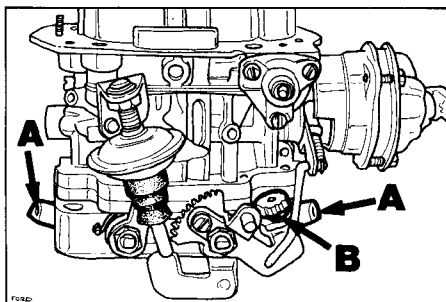

Fig. 1 Idle adjusting screws
- If outside specification, adjust with idle speed screw (B, Fig. 1).
- If outside specification, stop engine and remove tamperproof plugs from idle mixture screws (A, Fig. 1).
- Adjust both idle mixture screws (A, Fig. 1) and idle speed screw (B, Fig. 1) to achieve correct CO level at specified idle speed.
- After adjustment fit new tamperproof plugs to mixture screw housings (A, Fig. 1).